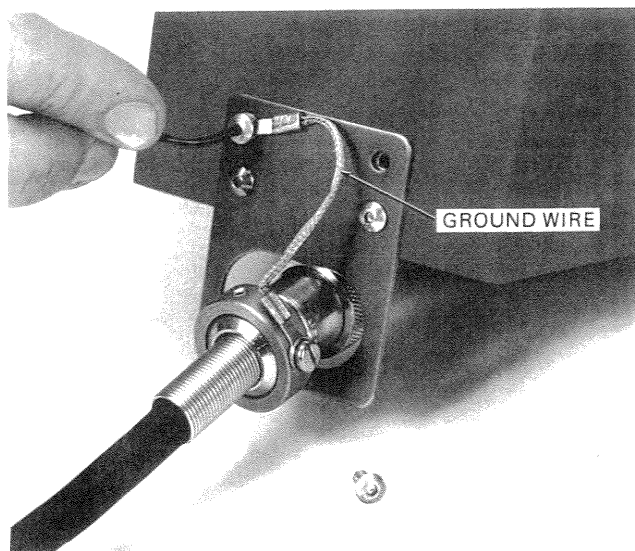

Figure 7.
4. Attach lamp cord mounting bracket with the 4 screws supplied to the rear of the lamphouse using a 5/64" Allen wrench (supplied). Ground wire must be attached as shown (Figure 7).